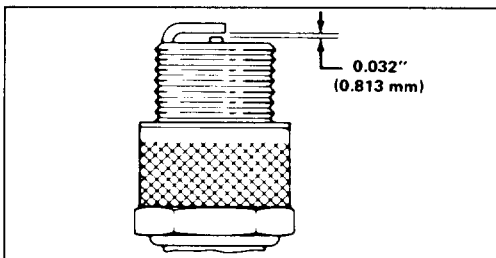

Figure 16
3. Set air gap at 0.032" (0.813 mm) (Fig. 16). Install correctly gapped spark plug and gasket seal. Tighten plug firmly to 15 ft-lb (20.4 N·m).